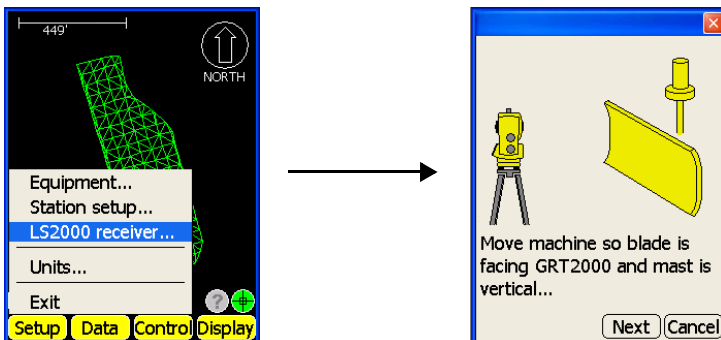

Figure 5-16. Begin LS-2000 Receiver Setup
9. Press **Setup** ► **LS2000 receiver** to begin the receiver setup, and press **Next** when the machine is ready (step 10 is complete) (Figure 5-16).